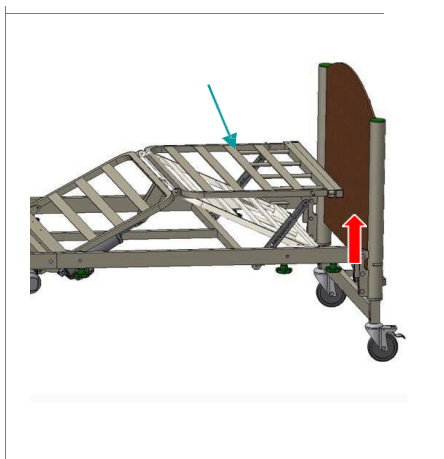

Figure 15: Raising manual calf section
- To decrease the knee break angle, manually raise the calf/leg section to the desired position. The calf/leg section will automatically lock into place (*Figure 15*).